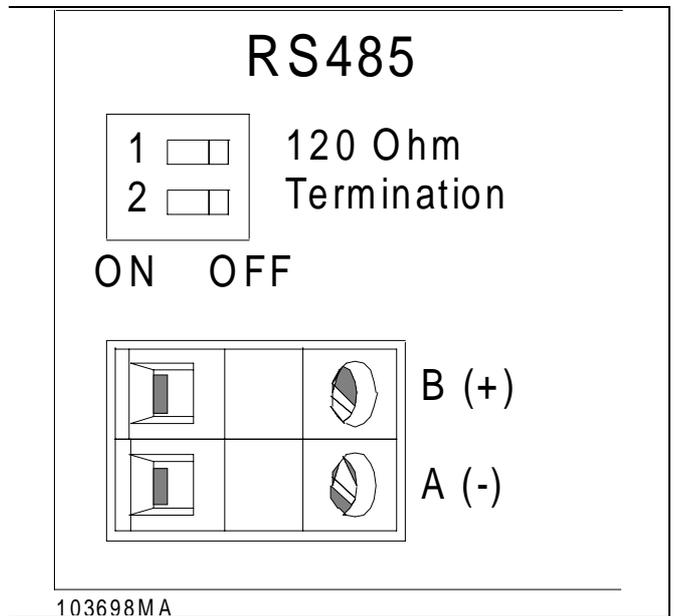

Figure 2-12 RS485 Interface Option
The RS485 line connection has a positive (B) terminal and a negative (A) terminal, with the red cable going to the (A) terminal. This option has an internal terminating resistor which may be connected to the line by switching either of the two switches, above the connector, to ON. Refer to Figure 2-12 for an example of the RS485 option.